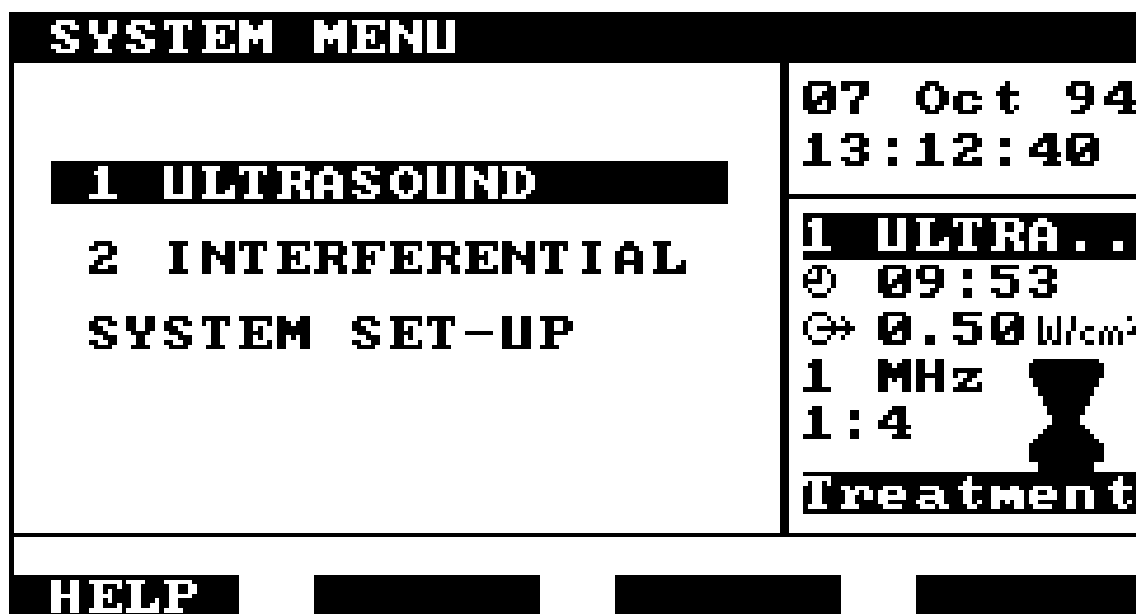

Figure 23 - Ultrasound as inset screen
26. **F3 - SYSTEM:** Pressing F3 - SYSTEM returns the user back to the System Menu, but without stopping the Ultrasound program running. This enables the user to run another application, for example, an Interferential program for combination therapy. When F3 - SYSTEM is selected the Ultrasound set-up is shown as an inset screen to the right of the display (see figure 23).